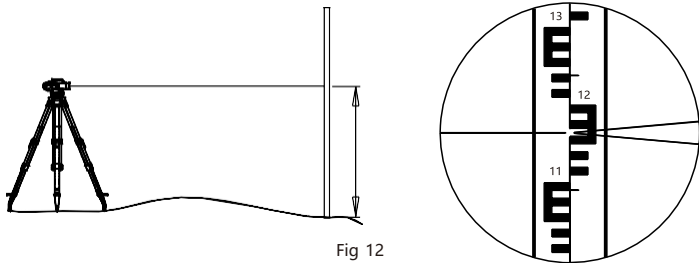

Fig 12
- (3) Read Data as figure 12, $H=1.165\text{m}$